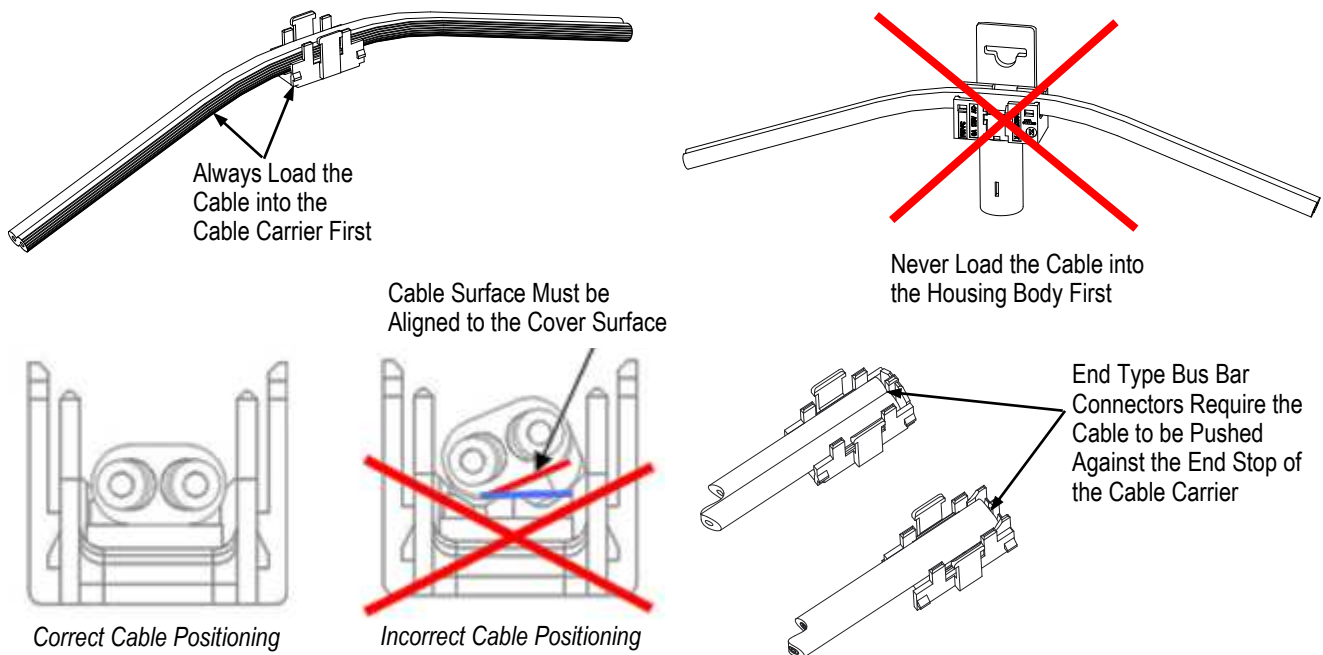

Figure 4
*Make sure that the cable is resting **FLAT** inside the channel to ensure the termination is successful. See Figure 4.*